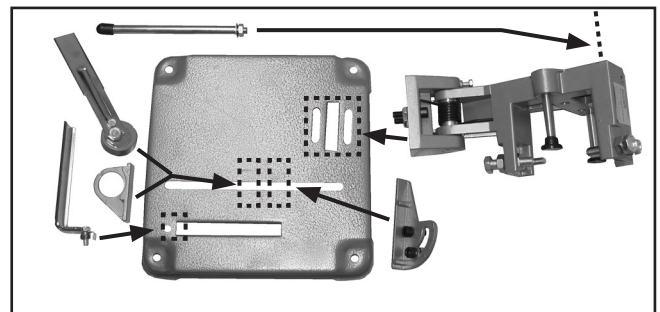

Figure 2. G8183 assembly locations.
1. Assemble the grinder stand in the locations shown in **Figure 2**.